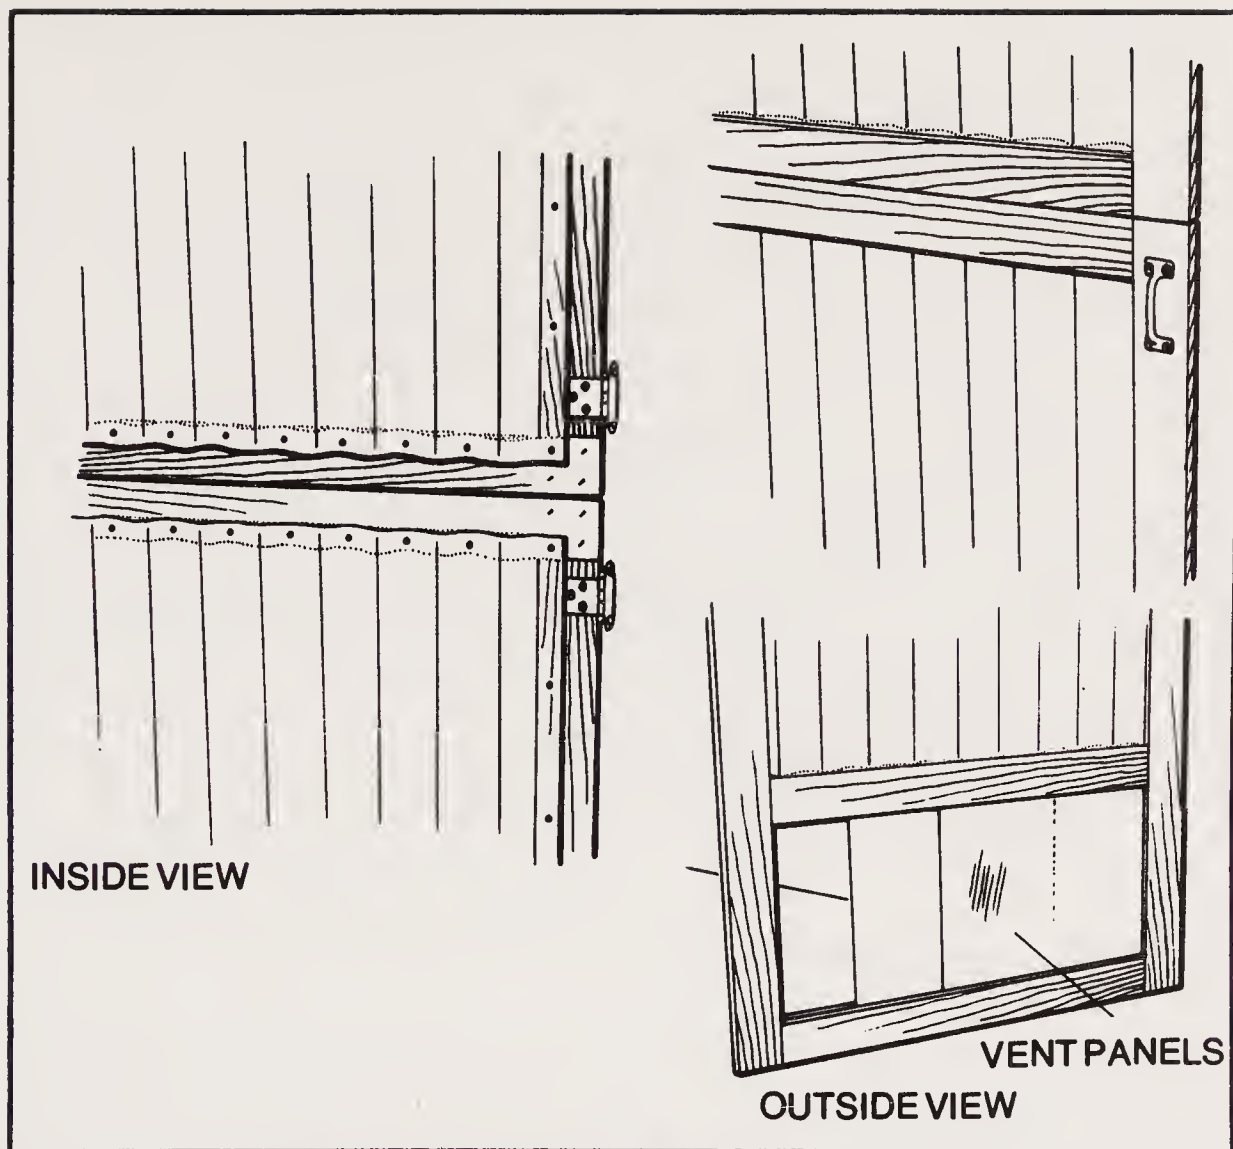

Fig. 1-31. Dutch door (courtesy of Peter Reimuller Company).
- ☐ When door is hung, measure half-way to find center of door and cut in halves to produce the finished Dutch door (Fig. 1-31).